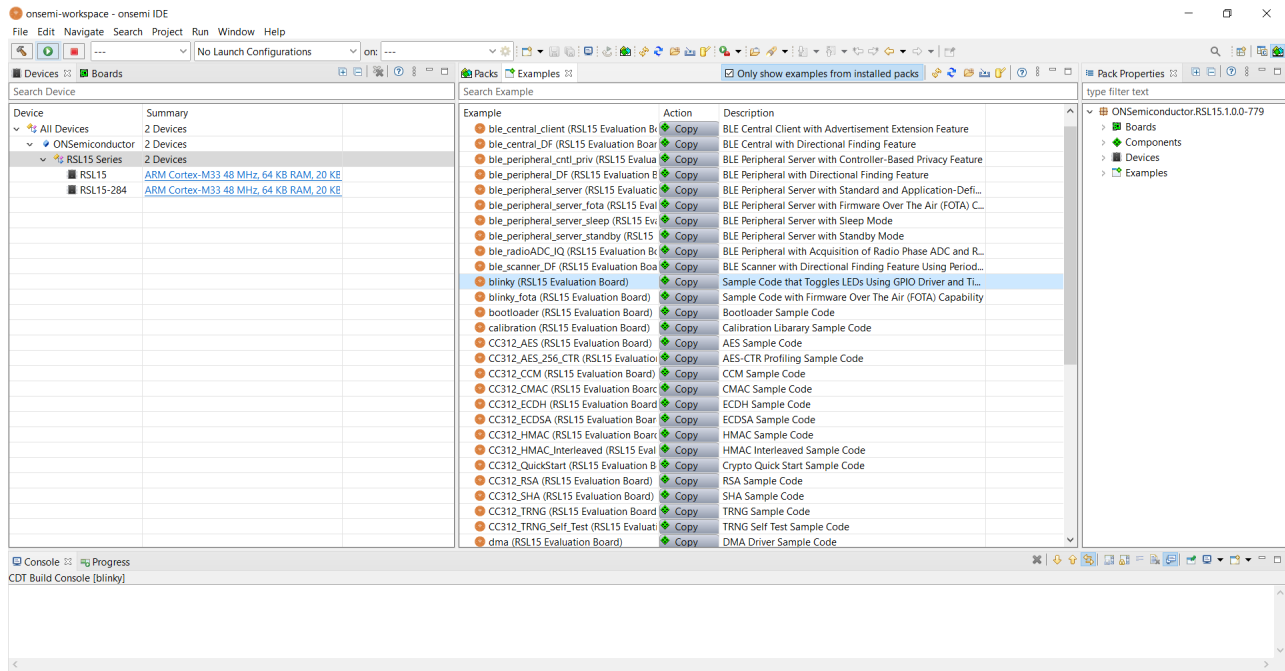

Figure 7. Pack Manager Perspective: Examples Tab
1. In the Pack Manager perspective, click on the **Examples** tab to list all the example projects included in the RSL15 CMSIS-Pack. (See the "Pack Manager Perspective: Examples Tab" figure (Figure 7).)